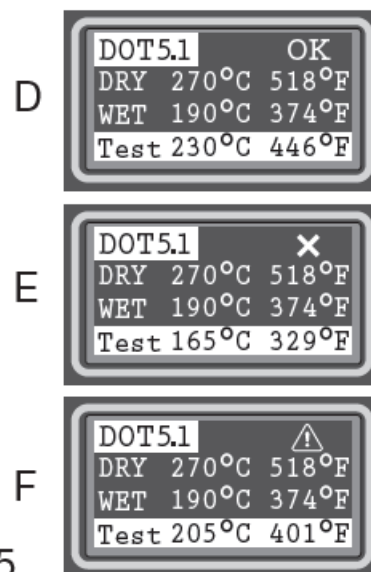

Fig 5
8. When the test is completed, the screen will display the standard Dry and Wet boiling points for the grade of brake fluid selected, as well as the results of the test in degrees Celsius and Fahrenheit (refer to Figure 5).
8. When test is completed, the screen will display the standard Dry and Wet boiling points for the grade of brake fluid selected, plus the results of the test in degrees Celsius and Fahrenheit. (Refer to Figure 5.)
Refer to Figure 5: The test result offers a recommendation as to the suitability of the brake fluid in the vehicle's braking system: